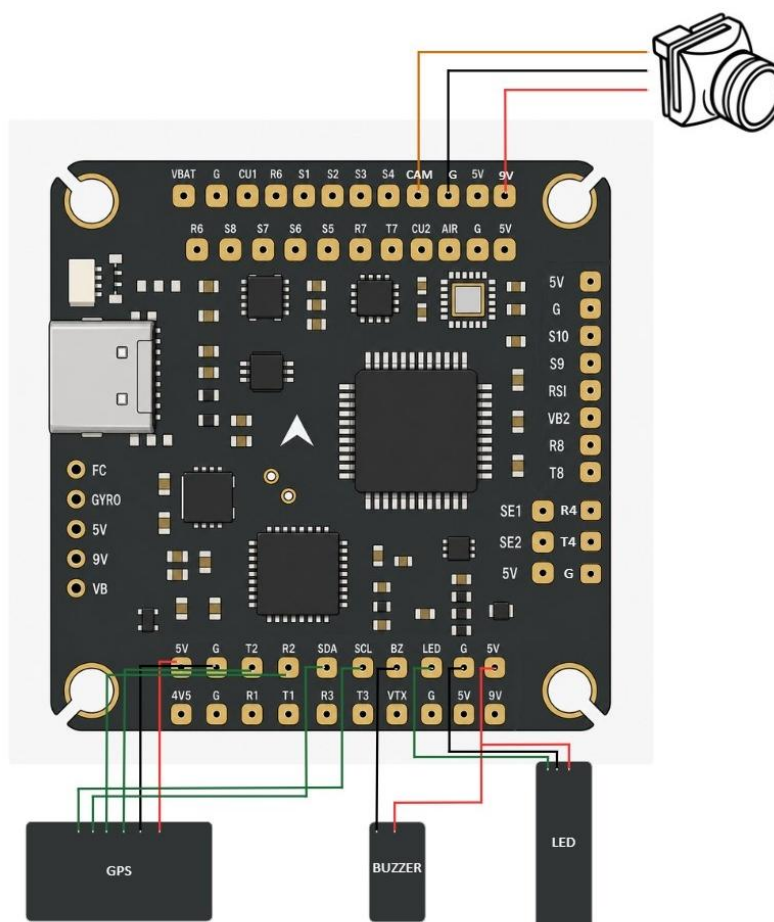

Fig.2. Wiring diagram (pads)
The FC provides 8 UART ports. The pad layout is as follows (see Fig. 2):
- UART 2 (GPS): Connect your GPS module here, as shown in Fig. 2. Match GPS TX to R2 and GPS RX to T2. Use the 5V and G pads for power.
- Camera: Connect the camera signal wire to the CAM pad, ground to G, and power to the 9V pad (see Fig. 2). Check the supply voltage rating of your camera before choosing between the 5V and 9V pads.